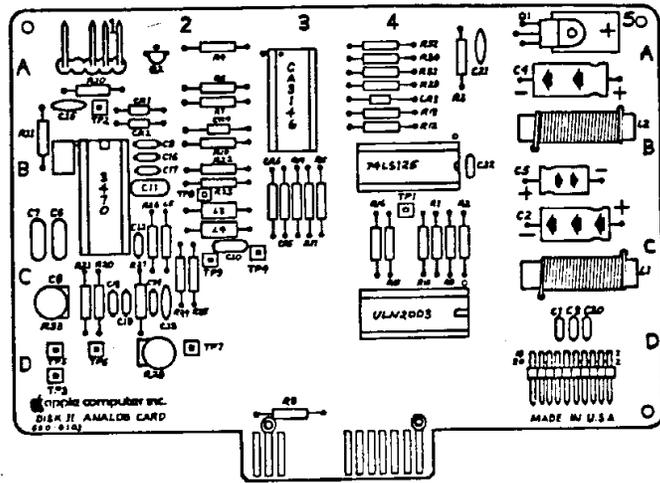
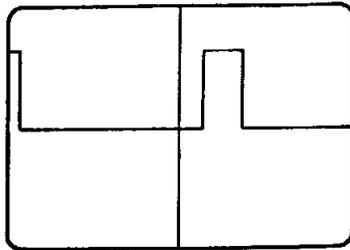

FIGURE 24
FIGURE 25
15. Move the scope probe to TP7. (Figure 24, #1). You will now see a second pulse (Figure 25). This pulse must be a single, clean pulse—with no dual images on the rising and falling edges. Adjust the trigger level dial if necessary to get a clear display.
16. If this second pulse needs adjustment, use a small flat blade screwdriver to adjust potentiometer R28 on the analog card. (Figure 24, #2). Adjust R28 until there is a single clean image on the scope.